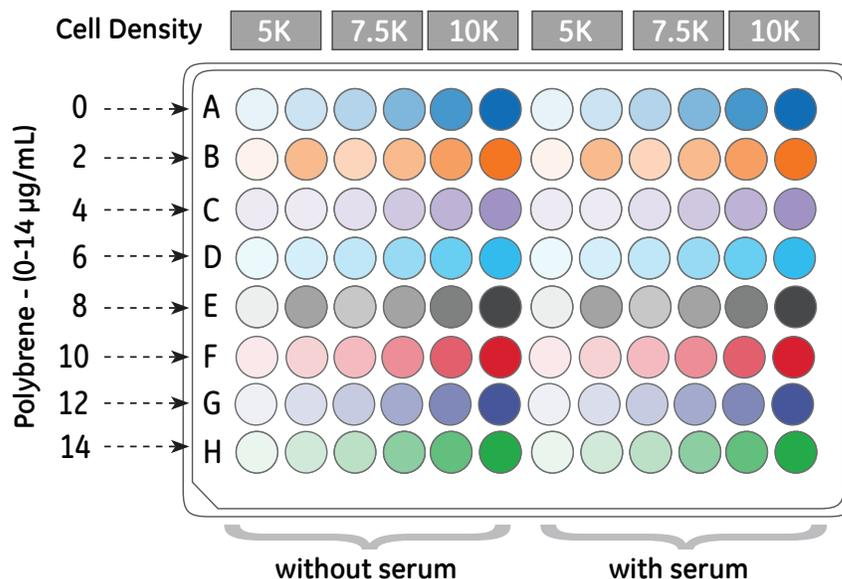

Figure 5. Example of a 96-well plate layout for the optimization of transduction conditions.
The following optimization protocol allows you to determine lentiviral transduction conditions that are compatible with the cell type of interest in one experiment in a 96-well plate format as depicted in **Figure 5**. This recommended protocol will test cell density, Polybrene concentration, the presence or absence of serum, and the duration of transduction (6 hours or overnight).
Seed cells into two 96-well culture plates at the appropriate cell density following the template depicted in **Figure 5**. Use a total volume of 100 µL of the Growth Medium per well and place 96-well culture plates into incubator for overnight culture under the appropriate conditions (temperature and CO₂ concentration).
If all three cell concentrations seeded resulted in > 90% confluency, then it is necessary to re-seed the cells using a lower range of cell densities. Generally, transductions with lentiviral particles should be performed when cells are 40% to 80% confluent, depending on the characteristics of the cell line providing space for cells to replicate in culture. Because cells can differ significantly with respect to size and morphology, the number of cells seeded should reflect this difference. The number of cells shown in Figure 5 (5,000, 7,500, and 10,000) is specified only to depict a range of cell concentrations that should be seeded across the 96-well plate. The actual number of the cells seeded for the specific cells of interest will vary depending on the size and morphology and will depend on previous experience.
- c. Use these wells to prepare a series of Transduction Medium formulations containing eight different Polybrene concentrations ranging from 0-14 μ g/mL, increasing concentration in 2 μ g/mL increments (**Figure 5**). Polybrene concentration is increased to account for the additional 25 μ L of Base Medium, which does not already contain Polybrene. For example, well (B1) contains 3 μ g/mL Polybrene; adding 50 μ L of Transduction Medium with a Polybrene concentration of 3 μ g/mL to 25 μ L of Base Medium containing no Polybrene will result in a final concentration of 2 μ g/mL.
- d. Use **Table 1** to prepare the eight Transduction Medium formulations. Two sets of eight wells of Transduction Medium should be prepared as before (**Figure 5**), one set without serum and one with serum.
- b. Using a multichannel pipette, transfer 50 μL of Transduction Medium (with or without serum) containing the range of Polybrene concentrations (0-14 $\mu\text{g}/\text{mL}$) to cells seeded in 96-well culture plate. Transfer Transduction Medium in format depicted in **Figure 5**.
2. Make dilution medium using serum and Polybrene conditions determined during transduction optimization. Make dilutions of non-silencing control lentiviral particles in a round-bottom 96-well plate (Dilution Plate). As shown in **Figure 5 and Table 2**, use one row of the plate for each replicate of the dilution series of the lentiviral stock. We recommend performing two replicates. The procedure for dilution of the lentiviral stock is described below and results in a series of five-fold dilutions to reach a final dilution of 390,625-fold.